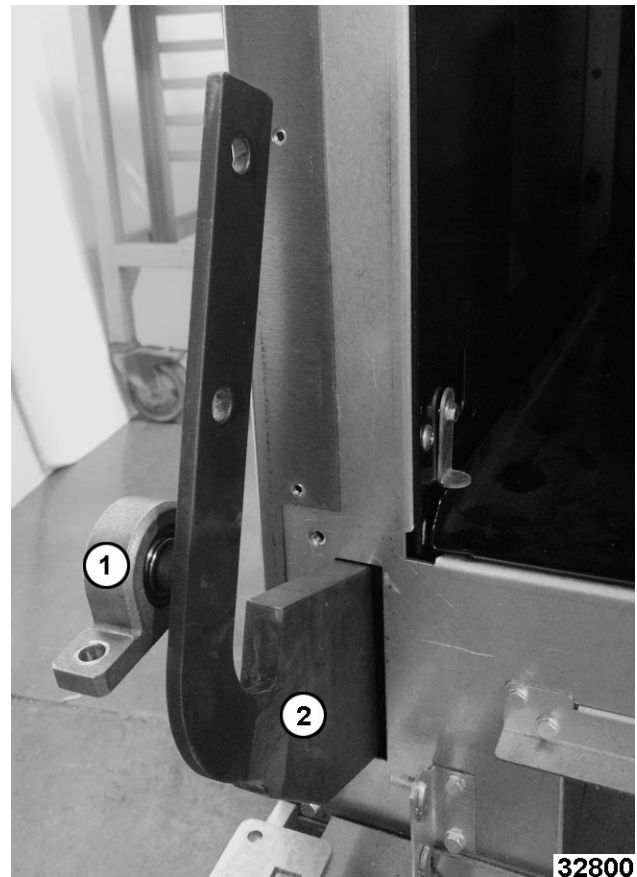

Fig. 93
4. Slide bearing (1, Fig. 93) off axle shaft.
5. Slide counterweight (2,)Fig. 93 through opening.